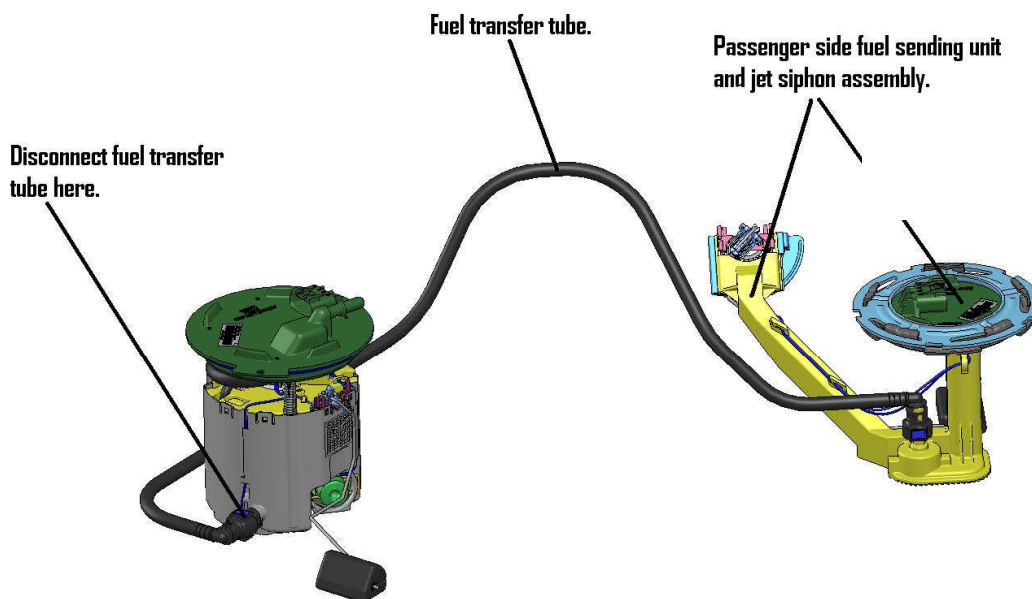

FIGURE 1-3
12. Carefully remove the fuel pump assembly as not to bend the float arm. There will also be a fuel transfer tube located on the bottom side of the assembly. Release this connection and let it fall back into the tank. The figure below gives you a visual on the internal working of your fuel tank. **FIGURE 1-3**